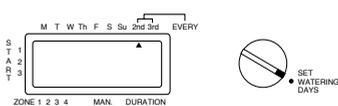

Figure 11
3. Press **ENTER**. Indicator stops blinking. (See Figure 11.) The blinking indicator steps to the other selection.